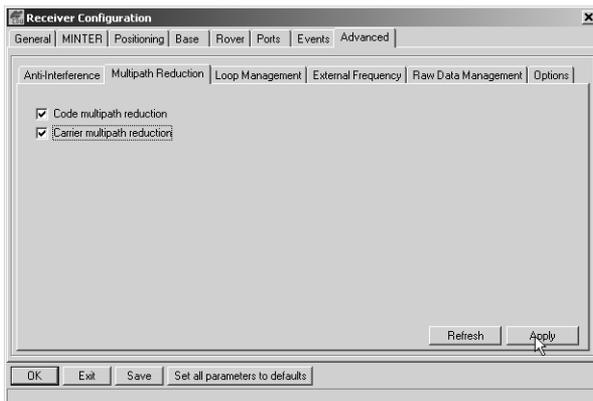

Figure 2-16. Advanced Configuration – Multipath Reduction
5. Click the **Multipath Reduction** tab, enable the following boxes, and click **Apply** (Figure 2-16).